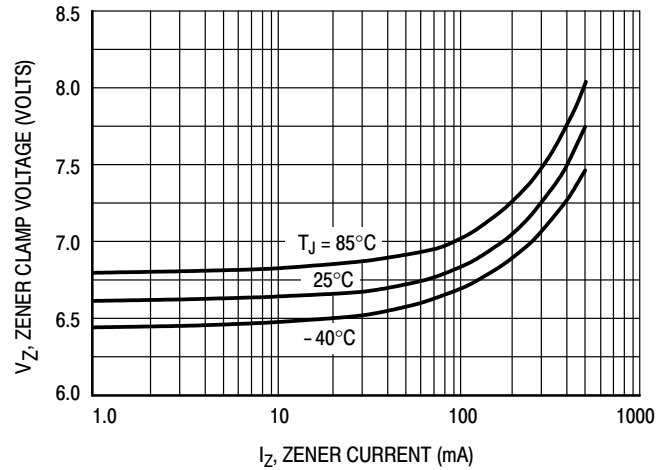

Figure 7. Zener Clamp Voltage versus Zener Current
7. Using the max output current calculated in step 1, check Figure 7 to insure that the range of Zener clamp voltage over temperature will satisfy all system and EMI requirements.